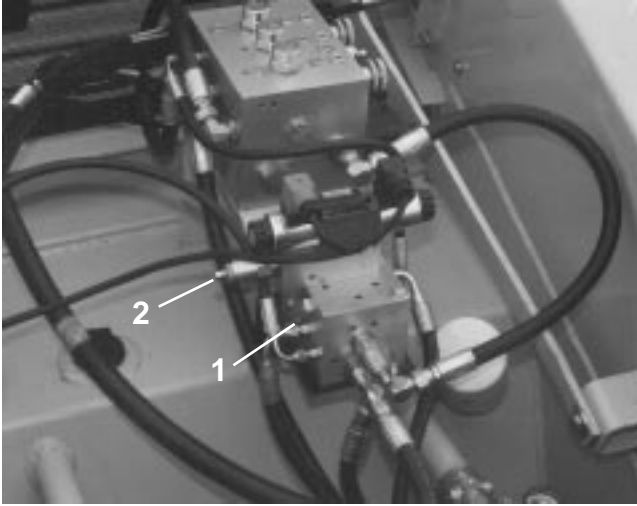

Figure 32 Gate Relief Valve
1) Install 2000 psi gage in "G" port of gate cylinder manifold located just behind conveyor manifold on hydraulic reservoir (Fig 32 Ref 1). This port is SAE 04 MB and requires a 3/16 allen wrench to remove the plug.
3) To adjust pressure, use 9/16" box wrench to loosen jam nut on set screw located on sandwich valve mounted under the directional control valve for gate cylinder (Fig 32 Ref 2). If pressure is low, turn set screw clockwise. If pressure is high, turn set screw counterclockwise.